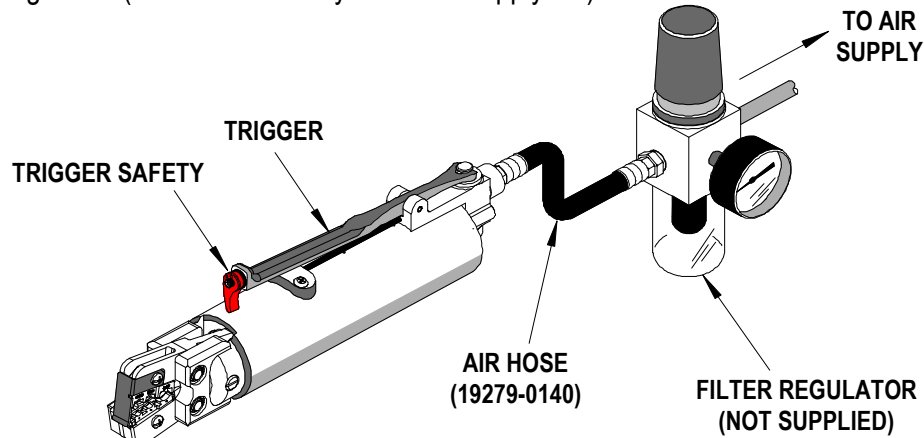

Figure 1
1. Connect the air hose to the tool and to the air supply 85 to 95 PSI. Do not exceed 100 PSI. **May cause injury or damage to the tool.** Air supply must be equipped with a 1/4NPT air filter /regulator which is not supplied by Molex. See Figure 1. (Available from any Industrial supply co.)